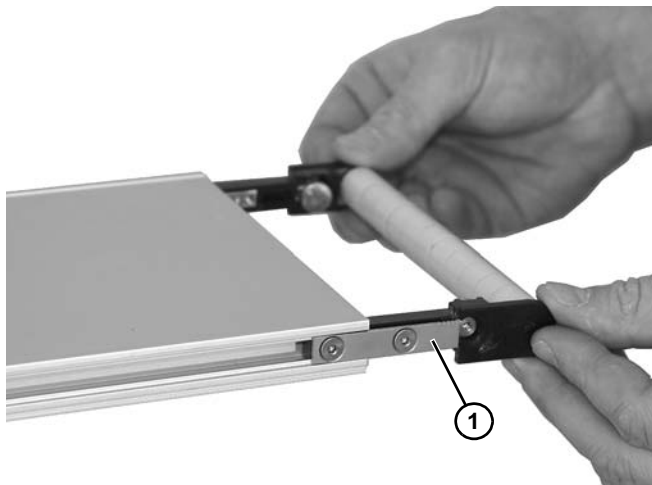

Figure 31
5. Remove the idler spindle assembly (**Figure 31, item 1**) from the conveyor frame.